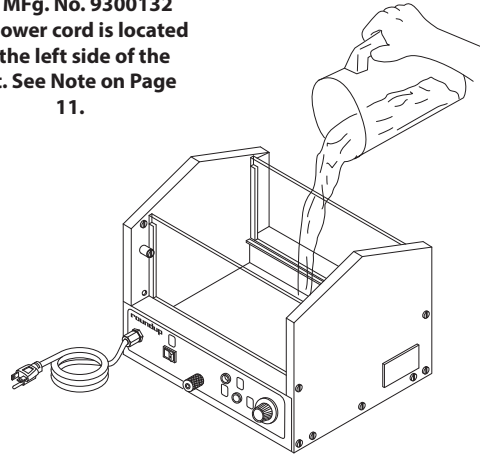

Figure 2. Filling Water Tray
2. Pour 7 quarts (5.6 liters) of clean tap water into the water pan (Figure 2). There is a "FULL" line inscribed on the inside of the pan.